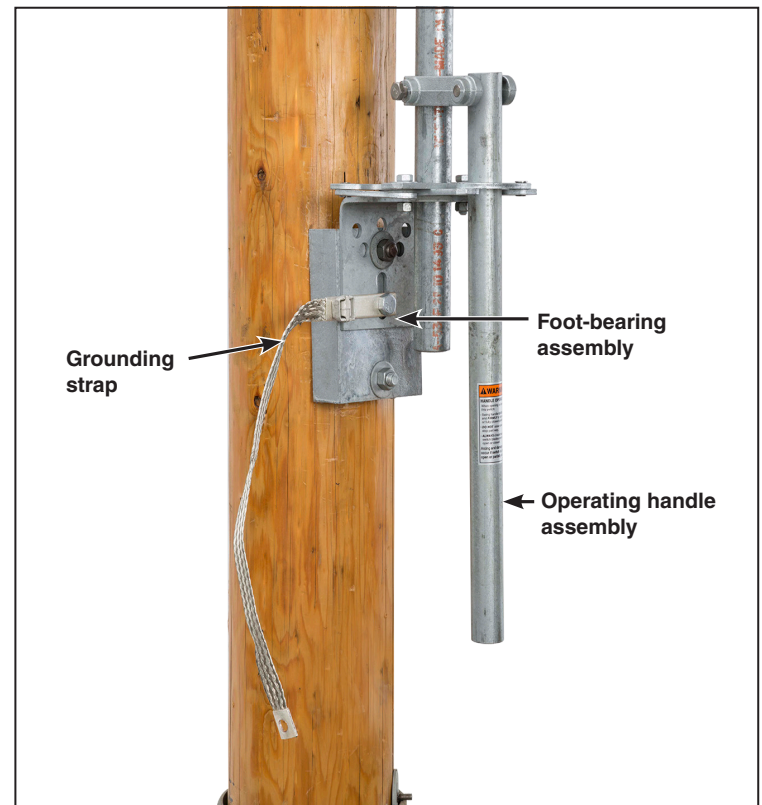

Figure 27. Install the foot-bearing assembly so the handle is 2 to 3 inches above the handle yoke.
STEP 27. Slide the foot-bearing assembly onto the lowest section of pipe at the position shown on the erection drawing. See Figure 27. At the same time, use one of the mounting bolts to attach one end of the ground strap (the end with the grounding connector attached) to the foot-bearing assembly. The grounding recommendations may differ from the standard operating and safety procedures of certain electric utility companies. Where a discrepancy exists, the operating procedures of the electric utility apply.